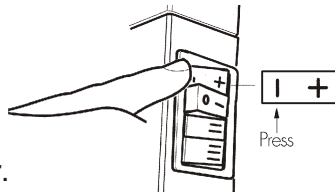

FIG 7.
7. TO TURN THE BURNER TO **LOW** SETTING, PRESS SWITCH FOR **LOW** SETTING. REFER FIGURE 7.
8. IF THE BURNER FAILS TO IGNITE, WAIT 20 SECONDS AND REPEAT THE IGNITION PROCEDURE. REFER FIGURE 7.